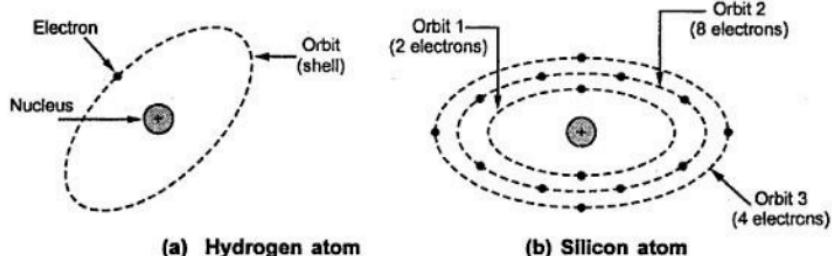

Fig. 1.1
1) Hydrogen : This atom consists of one proton and one electron revolving around the nucleus. This is the simplest atom. This is shown in the Fig. 1.1 (a). The dot represents an electron while nucleus is represented by a circle with the positive sign inside it.
2) Silicon : This atom consists of 14 electrons. These revolve around the nucleus in three orbits. The first orbit has maximum 2 electrons, the second has maximum 8 electrons and the third orbit has remaining 4 electrons. This is shown in the Fig. 1.1 (b).